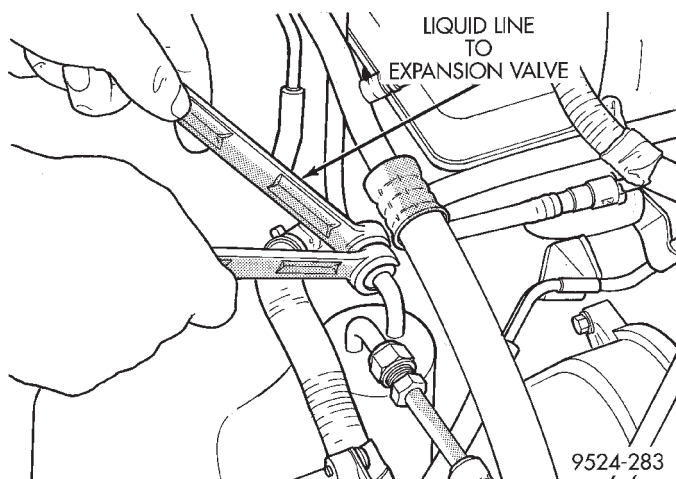

**Fig. 53 Liquid Line From Expansion Valve**
- (3) Remove liquid line at filter/drier from expansion valve (Fig. 53).